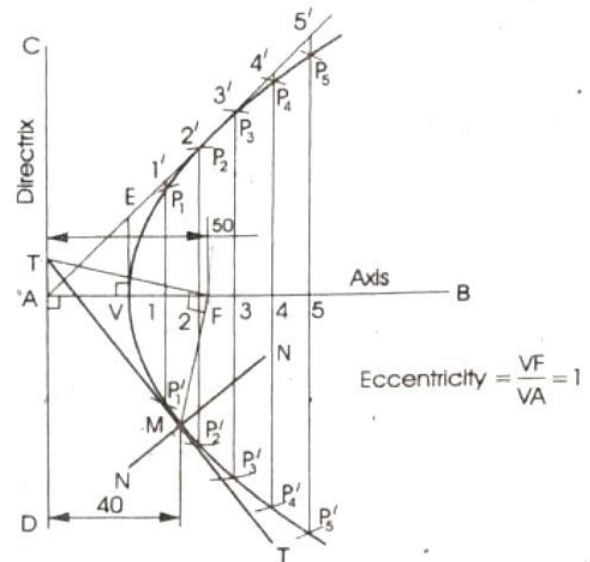

Fig. 5.3 Construction of parabola-Eccentricity method
Construction (Fig. 5.3)
7. Repeat steps 6 to 8 of Construction: Fig. 5.3. P_1 and P_1' are the points on the hyperbola, because the distance of P_1 from F is $1-1'$ and from CD , it is $A-1$, and $\frac{1-1'}{A-1} = \frac{VE}{VA} = \frac{VF}{VA} = \frac{3}{2}$, the eccentricity.